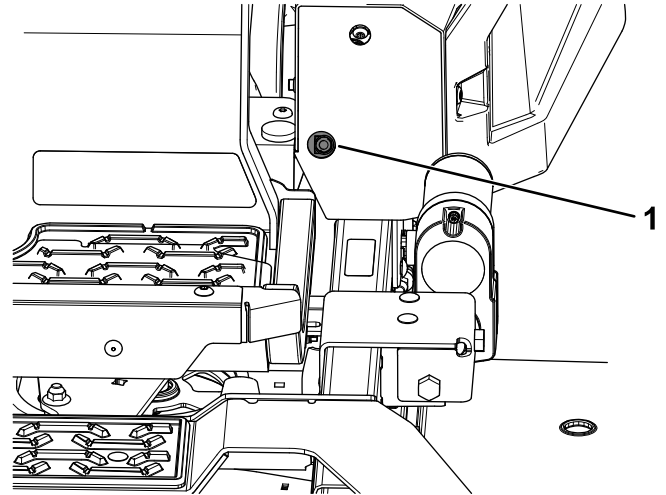
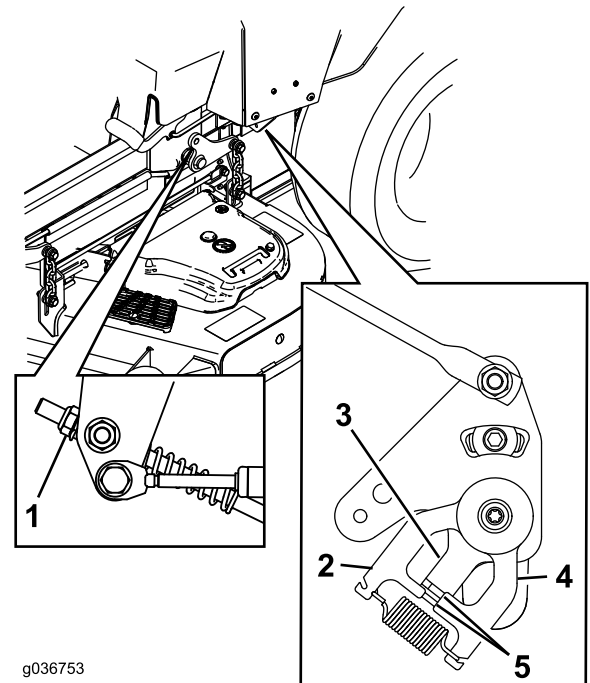

Figure 71
Figure 72
11. Adjust the pump-control-rod lengths by rotating the nut in the appropriate direction until the wheels slightly creep in reverse (Figure 71 and Figure 72).